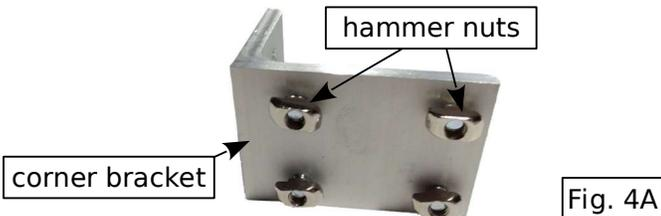
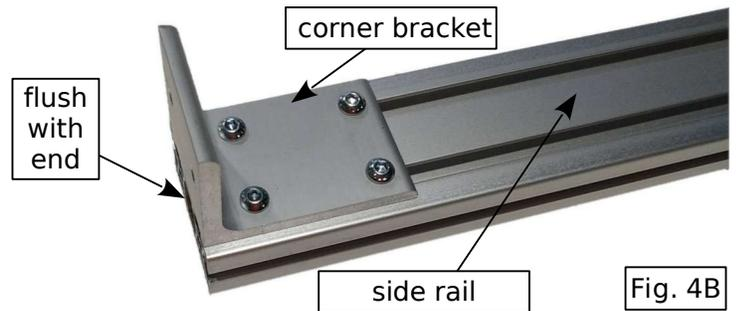

Fig. 4A
Fig. 4B
4. Insert four M6 x 12 mm button head socket screws into the holes of the long leg of each corner bracket from the inside of the angle. Thread the shoulder side of a hammer nut one turn on the end of each screw (Fig. 4A). Slide the hammer nuts into the slots on the end of each side rail until the short leg of each corner bracket is flush with the end (Fig. 4B). Tighten the screws with the 4 mm hex key.